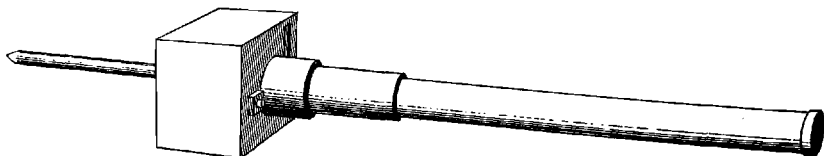

Figure 6.—Japanese "Barrage" Mortar.
(1) *Description*.—The "barrage" mortar (see fig. 6) is a simply designed weapon for area bombardment. It consists of a smooth-bore tube, approximately 70-mm in diameter and 4 feet long; a base plate, a rectangular wooden block, and an iron rod, which holds the mortar in an upright position and controls the angle of elevation for firing. The wooden block, 12 inches long, 10 inches wide, and 8 inches thick, is used to absorb the shock during firing and to prevent the base plate from digging into the ground. The base plate is fastened to the block by two bolts. The iron rod, about 1 inch in diameter and 18 inches long, is fastened to the bottom of the block and extends straight down.